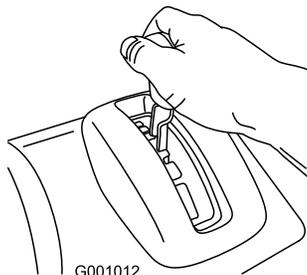

Figure 6
1. Place the speed selector lever to the desired forward position, making sure it locks in the notch (Figure 6).